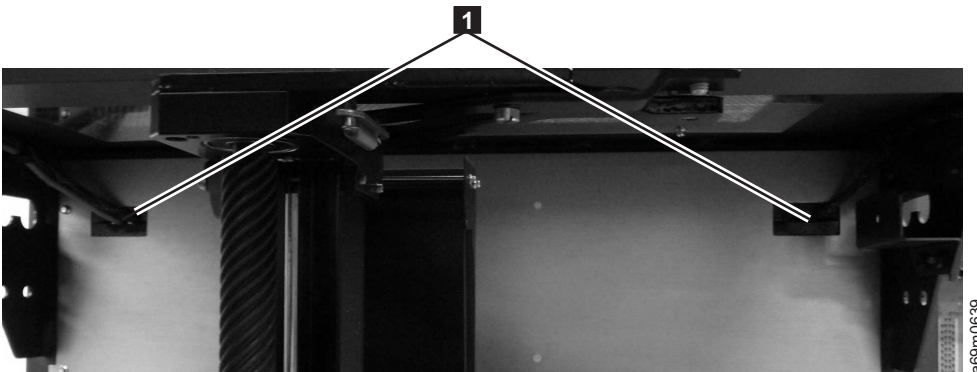

Figure 26. Rear frame openings
2. Route the ends of the camera cables out of the opening at the rear of the frame (**1** in Figure 26). The cables can then be routed either out of the top of the frame (where drive cables exit) or out of the bottom of the frame. Secure all cables inside the rear of the frame using existing clamps.